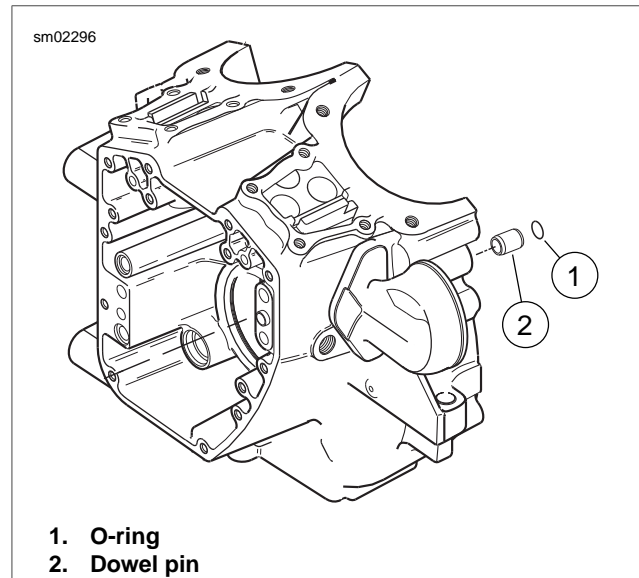

Figure 3-59. Right Crankcase Forward Dowel Pin (Rear Dowel Pin Not Shown)
6. See Figure 3-59. Remove o-rings (1) from two dowel pins (2) in split line face of right case half. Discard o-rings.